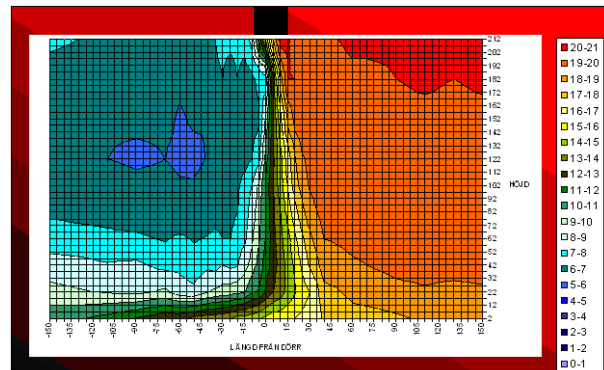

Fig. 2
- Fig. 2 shows the effect when an air curtain is used with too high an airflow velocity,